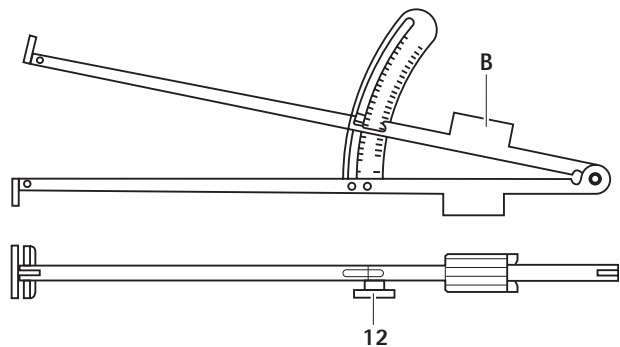

Fig. 24
- ▶ Turn the knurled screw 12 of the caliper B counterclockwise until it is fully disengaged, see Fig. 24.